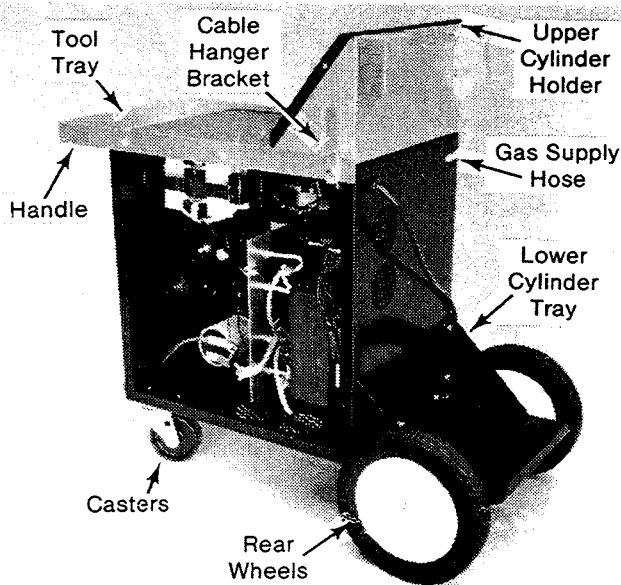

Figure 2
2. Mount the casters, lower cylinder tray and rear wheels. Then mount the upper cylinder bracket, handle, and cable hangers. See figure 2